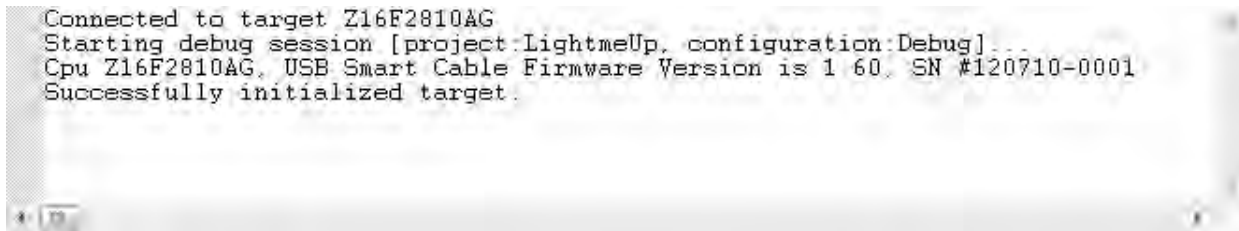

Figure 16. Connected Successfully Screen
16. In the Debug Command Window, select **Connect to Target**, and observe the progress of the debug operation in the progress window. When the debug is complete, a `Successfully initialized target` message will appear, as shown in Figure 16.